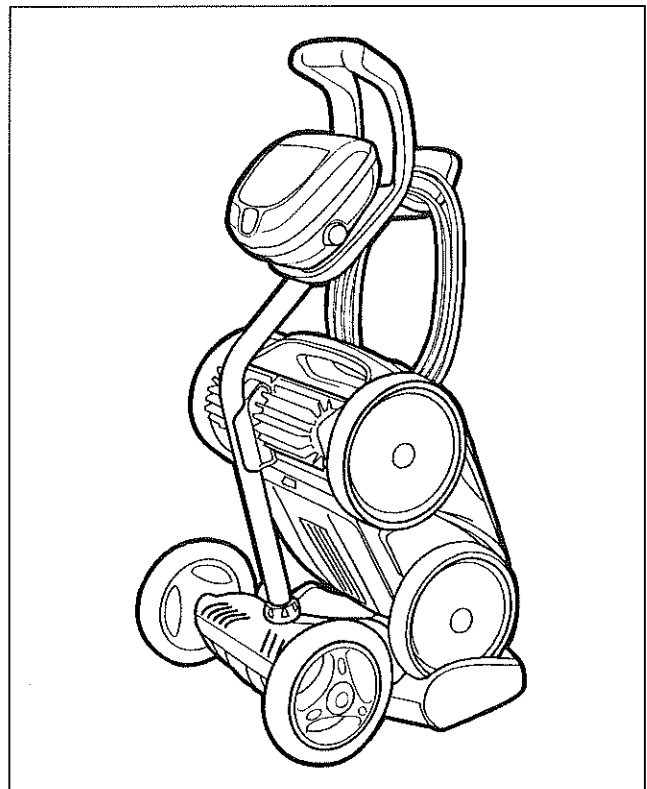

Figure 23. Cleaner Correctly Stored on Caddy
- Place cleaner in vertical position on the caddy base and clip to hook (Figure 23).
- Loosely coil the power cable starting at the cleaner and moving toward the connection point at control unit. Store the cable by wrapping it around the hook located on the front of the caddy (Figure 23).